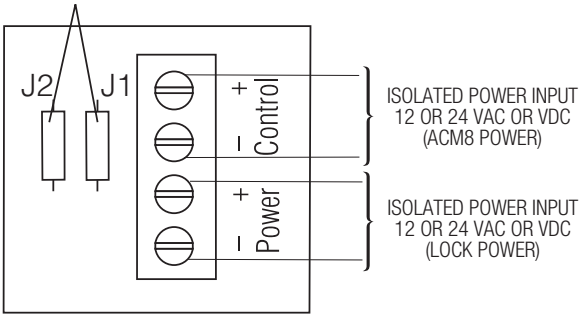

Fig. 4 Polarity reversal input from FACP signaling circuit output (polarity is referenced in alarm condition):
7. **Fire Alarm Interface options** (*Figs. 4 through 8, pg. 9*):
FACP INTERFACE T, + INPUT –	Fire Alarm Interface trigger input from FACP. Trigger inputs can be normally open, normally closed from an FACP output circuit (Fig. 4 through 8, pgs. 8-9).